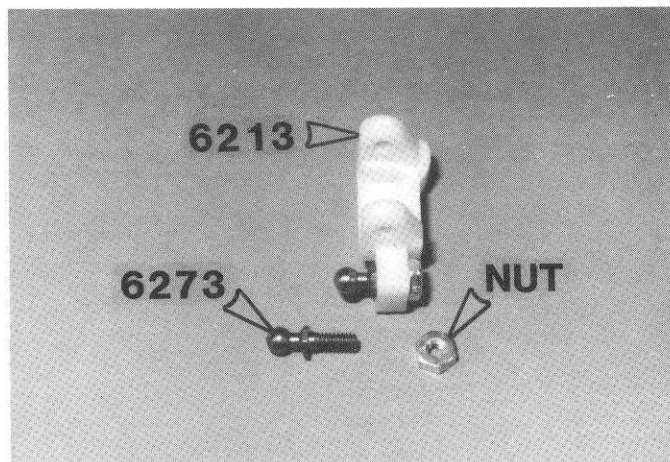

Fig. 9
□ **Fig. 9** From Bag #6-14 screw the long ball end #6273 into the left hand front block carrier #6213 as shown, then screw on the locking nut. Assemble the right hand parts.